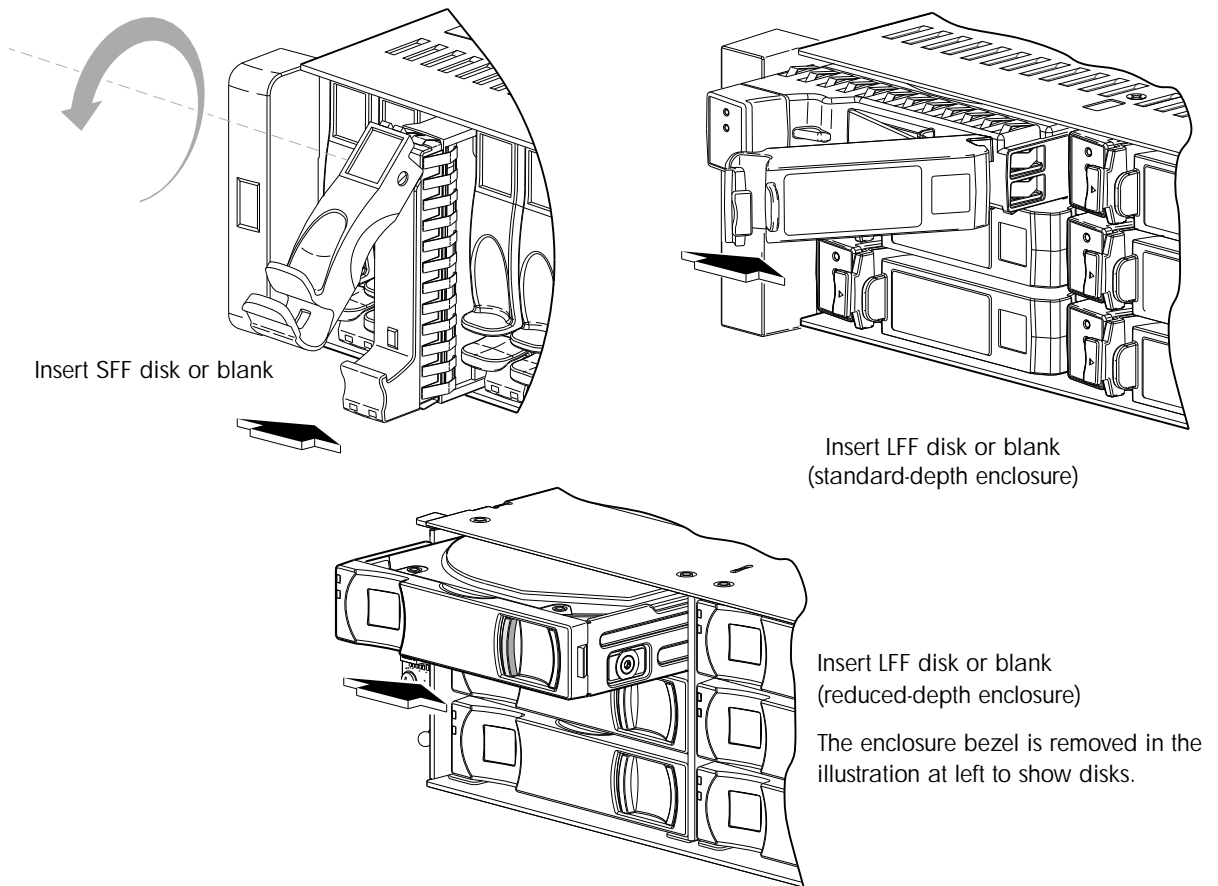

Figure 23 Installing a disk drive module or blank
- a. SFF disk — with the LEDs oriented to the bottom, slide the disk drive module into the drive slot as far as it will go (see upper left illustration in Figure 23 on page 39).
- b. LFF disk (standard-depth enclosure) — with the LEDs oriented to the left, slide the disk drive module into the drive slot as far as it will go (see upper right illustration in Figure 23 on page 39).
- c. LFF disk (reduced-depth enclosure) — with the LEDs oriented to the left, slide the disk drive module into the drive slot as far as it will go (see bottom illustration in Figure 23 on page 39).
Check that the Power/Activity/Fault LED (LFF disks) or Power/Activity LED (SFF disks) — located on the front face of the disk drive's escutcheon — is illuminated green. On LFF disks, this is the bottom LED. On SFF disks, this is the left LED. Both sets of LEDs are shown in Figure 23 on page 39.